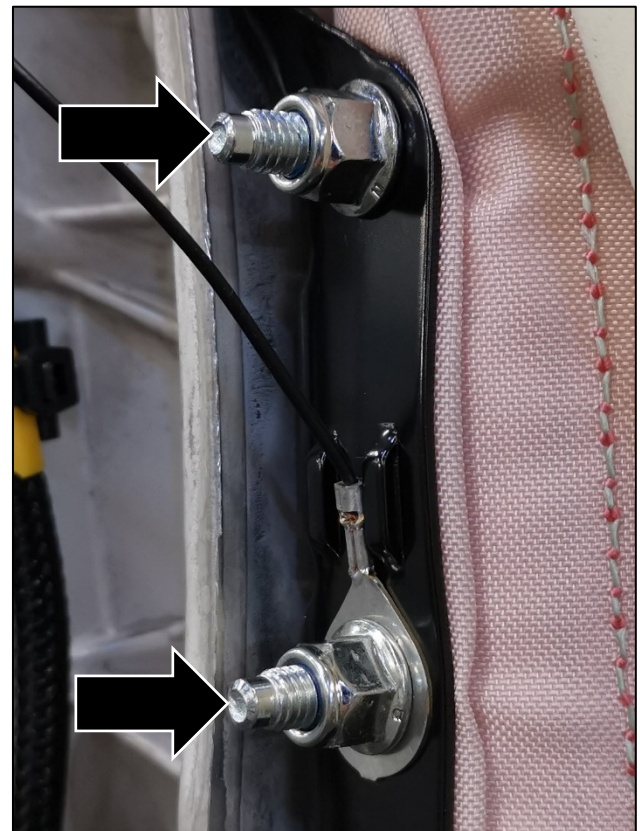

Figure 5
5. The lower fixing that clamps the ground eyelet must show a minimum of 4 visible threads. The upper fixing must show a minimum of 5 threads (refer to Figure 5).